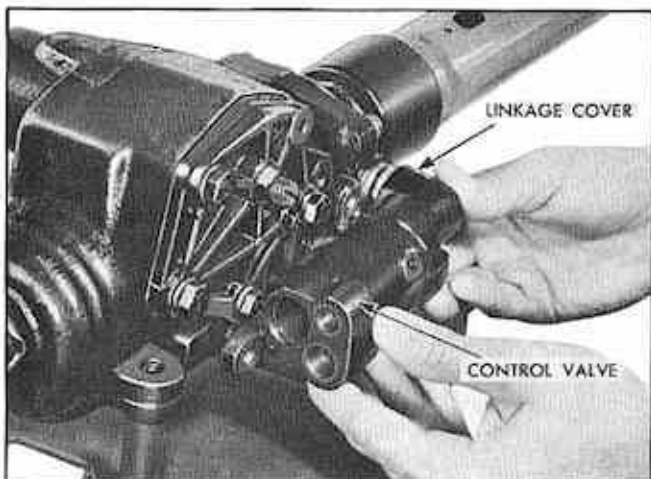

Fig. 52 Removing Control Valve and Linkage Cover
2. Remove control valve retaining screws and lift control valve and linkage cover off gear housing (Fig. 52).